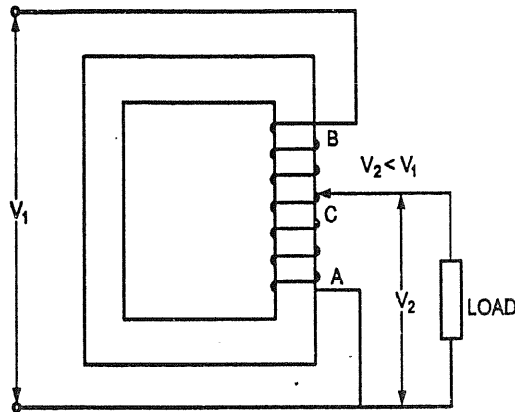

FIG. 3.34 : FIXED TAPING TYPE STEP DOWN AUTOTRANSFORMER
- Figure 3.34 & 3.35 shows the symbol of auto-transformer.